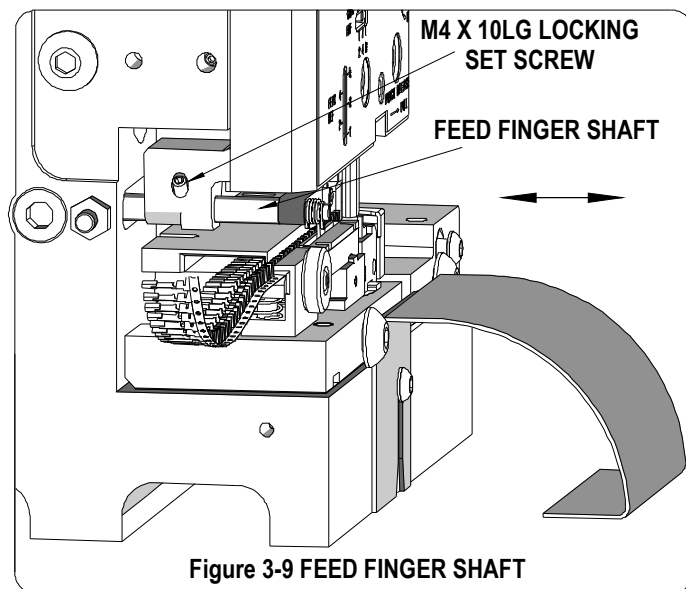

Figure 3-9 FEED FINGER SHAFT
2. Loosen the terminal feed finger shaft locking screw (M4) and slide the feed finger shaft in or out. See Figure 3-9.